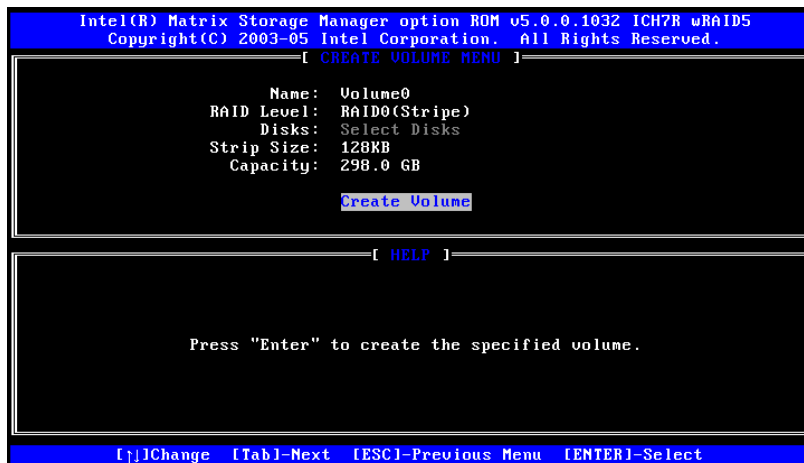

Figure F-6: Create the RAID Volume
**Step 6: Create the RAID Volume.** Press **ENTER** to create the RAID volume as specified. See **Figure F-6**.